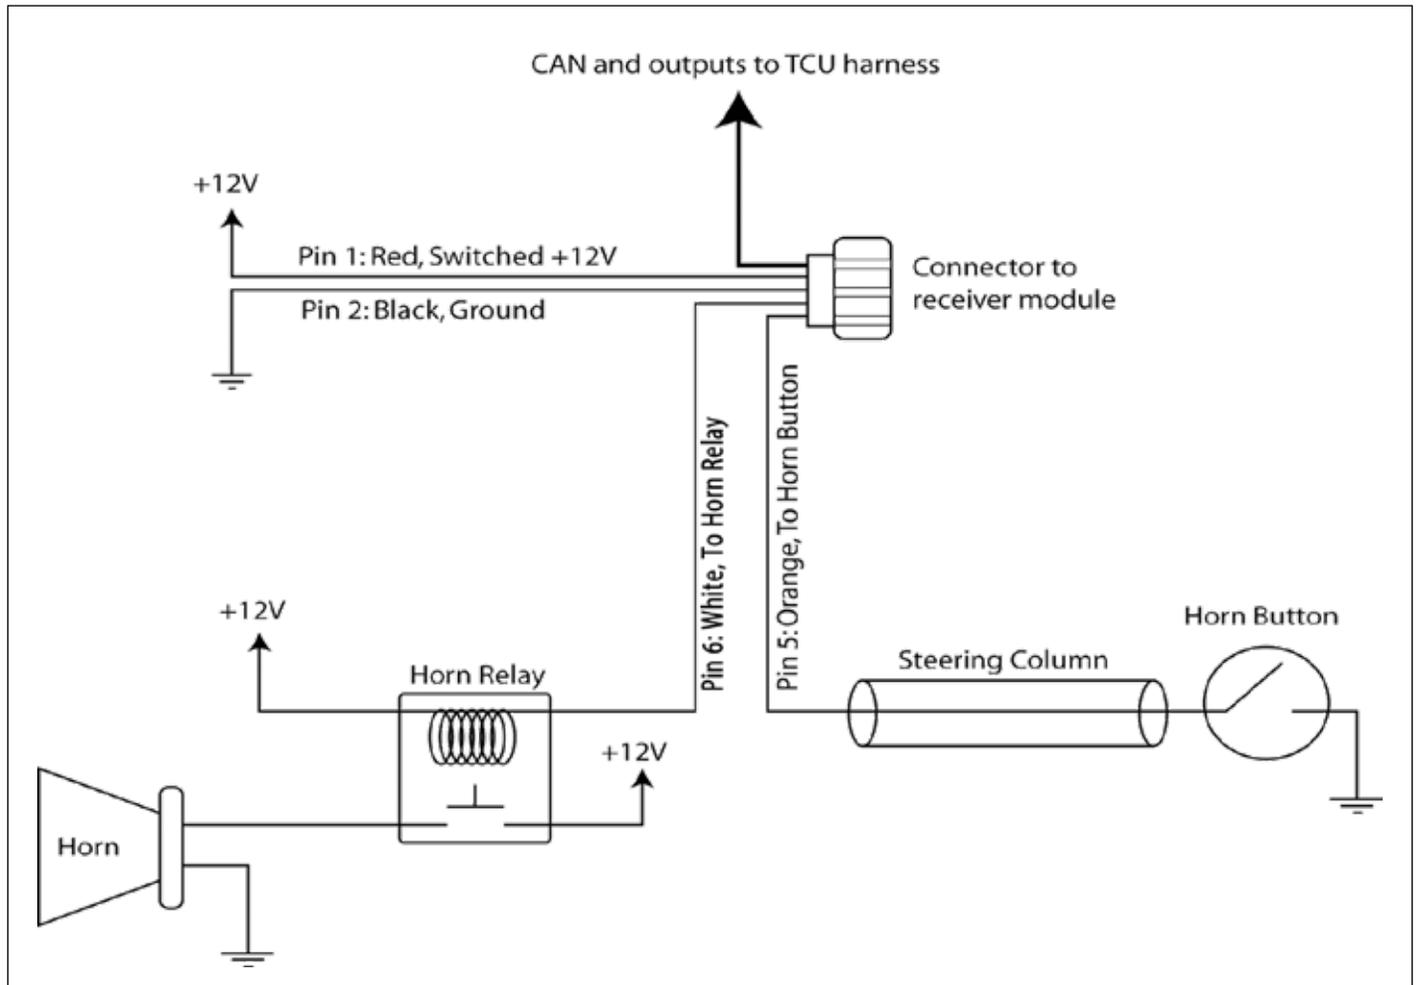

Figure 2.1-2: Horn Circuit w/Receiver Module Installed
**Figure 2.1-2** shows the installation of the receiver module into the existing horn circuit. Cut the OEM horn wire before the steering column. Connect the horn relay side to the white wire on the receiver module harness (Pin 6). Connect the horn button side to the orange wire on the receiver module harness (Pin 5). Connect the red wire (Pin 1) to a switched +12V power source. Connect the black wire (Pin 2) to a chassis ground. Butt crimp connectors and heat shrink have been provided for this operation.